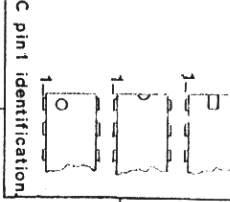

FIG. 9.
- 13) Referring Fig. 9, fit Capacitors C1, C2, C3, C6, C7, C8, C12, C19, C20, C21, C23, C24, C25, C26, C101, C104, C105, C109, C118, C204, C207. Trim leads to length and solder. **Ensure polarity is observed.**
- 13) Referring to FIG 9, fit REG1. Trim leads to length, solder and secure regulator to PCB as shown.